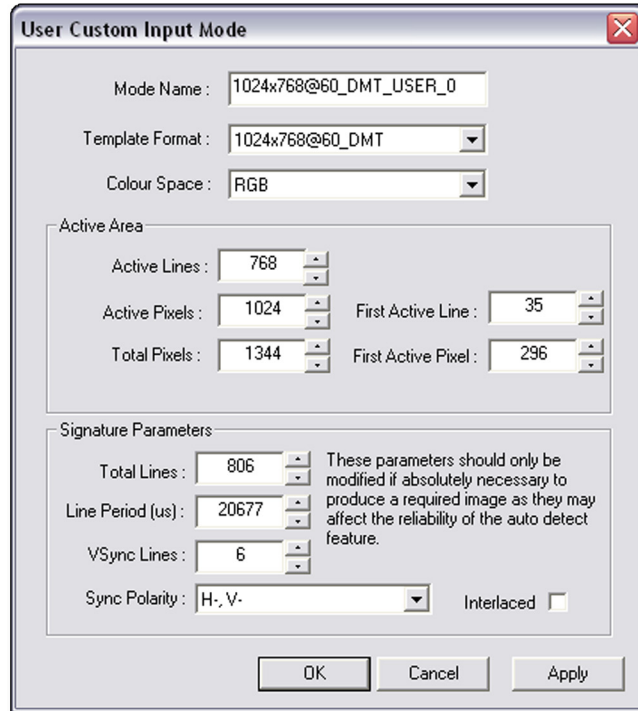

Figure 15. User Custom Input Mode Dialog Box
- In the **Mode Name** field of the User Custom Input Mode dialog box (see figure 15), enter a name for the custom mode.